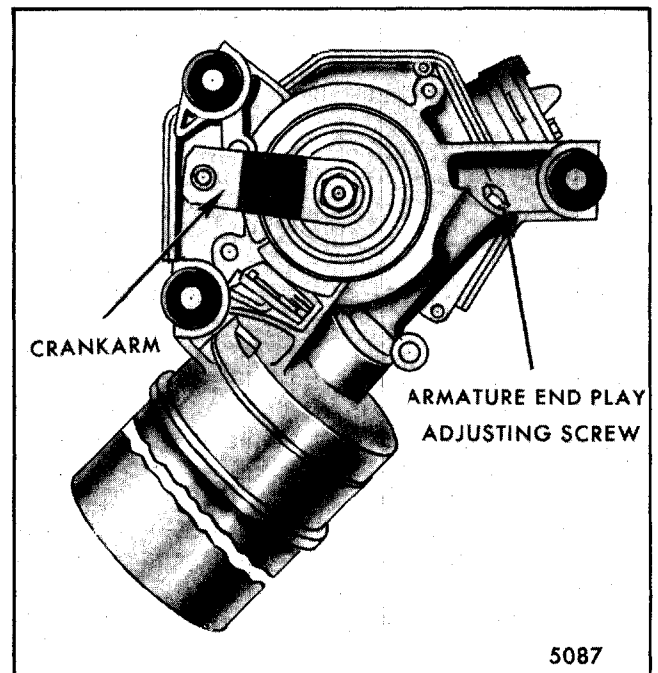

Fig. 2-72-Wiper Motor and Crank Arm in Park Position
13. Adjust armature end play screw (Fig. 2-72).
8. Operate wiper to park position and install crank arm in the approximate position shown in Figure 2-72.
1. Loosen adjusting screw locknut (Fig. 2-72) and tighten or loosen the adjusting screw as required until end of screw barely touches end of armature.